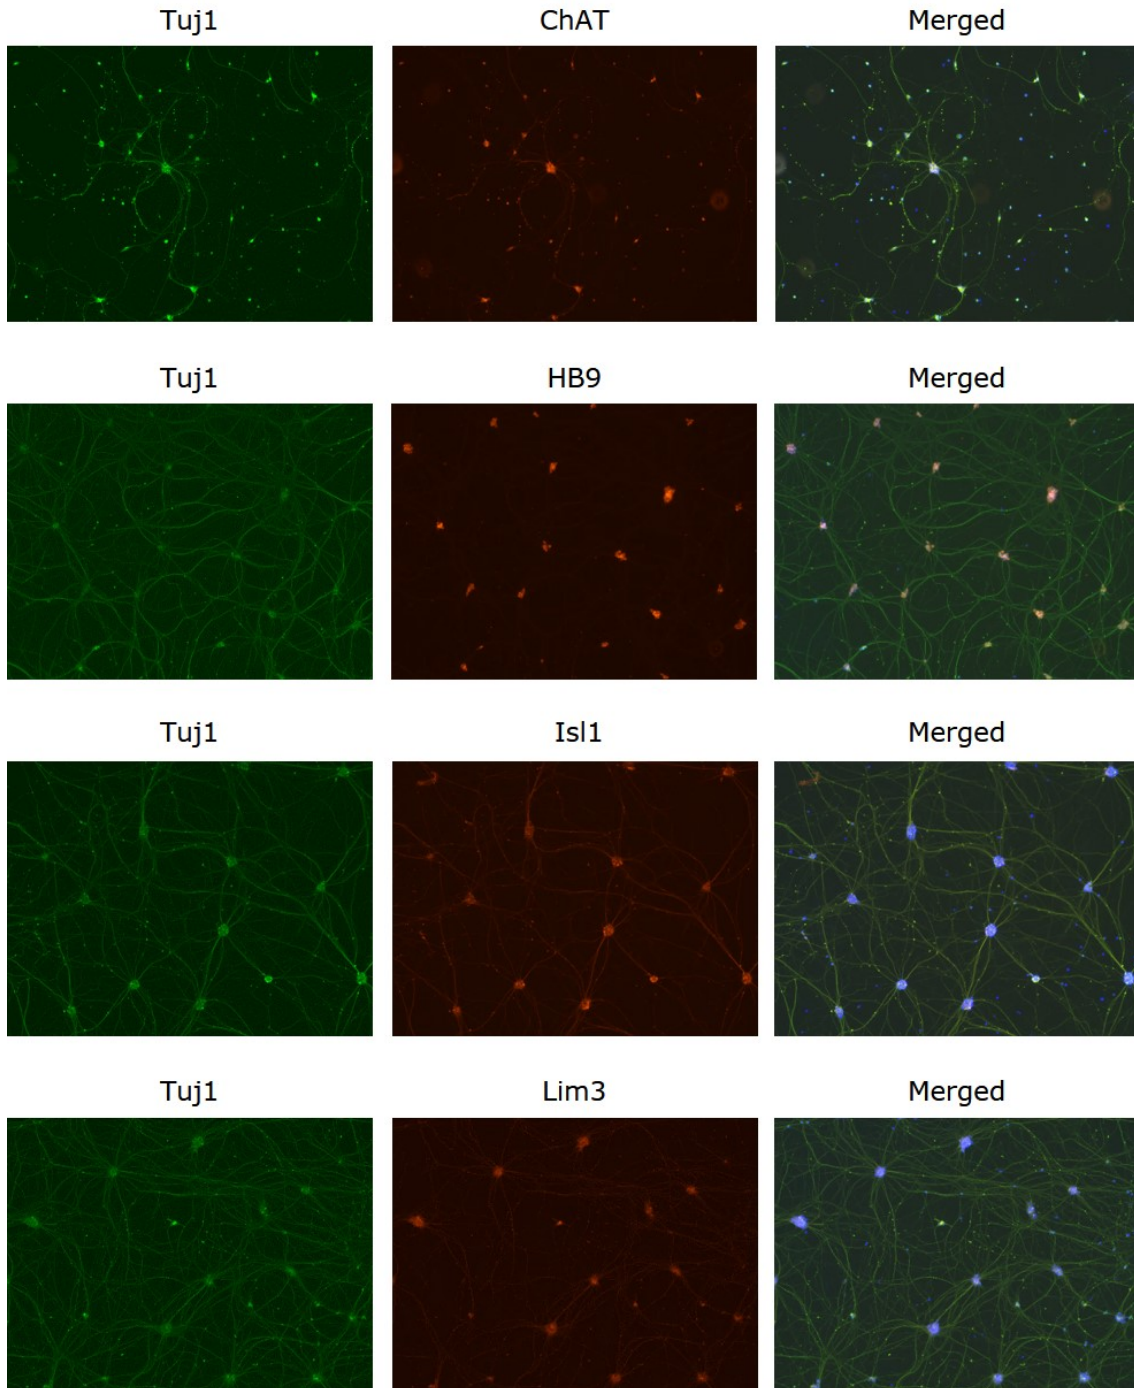

Figure 7. Immunofluorescence of Tuj1, ChAT, HB9, Isl1, and Lim3 in FA04 motor neurons at day 14 after plating in final motor neuron differentiation media.
- Perform standard quality control tests on differentiated cells to confirm motor neuron characteristics (e.g. motor neuron marker expression). Expression of motor neuron markers by immunofluorescence after 2 weeks in final motor neuron differentiation media is shown in Figure 7.